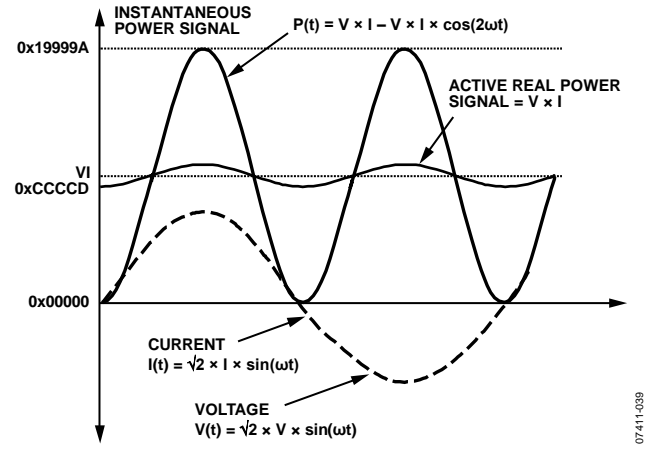

Figure 64. Active Power Calculation
Note that the active power is equal to the dc component of the instantaneous power signal, $P(t)$, in Equation 9, that is, VI . This is the relationship used to calculate active power in the ADE5169/ADE5569. The instantaneous power signal, $P(t)$, is generated by multiplying the current and voltage signals. The dc component of the instantaneous power signal is then extracted by LPF2 (low-pass filter) to obtain the active power information (see Figure 64).
As mentioned in the Active Energy Calculation section, the discrete time sample period (T) for the accumulation register is 1.22 μs (5/MCLK). With full-scale sinusoidal signals on the analog inputs and the WGAIN register (Address 0x1D) set to 0x000, the average word value from each LPF2 is 0xCCCCD (see Figure 64). The maximum positive value that can be stored in the internal 49-bit register is 2⁴⁸ (or 0xFFFF FFFF FFFF) before it overflows. The integration time under these conditions when WDIV = 0 is calculated in the following equation: